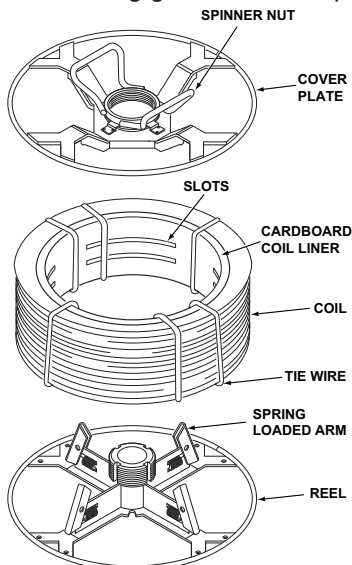

FIGURE B.2
- 1) With the K1504-1 Coil Reel mounted on to the 2" (51 mm) spindle (or with reel laying flat on the floor) loosen the spinner nut and remove the reel cover. (See Figure B.2).